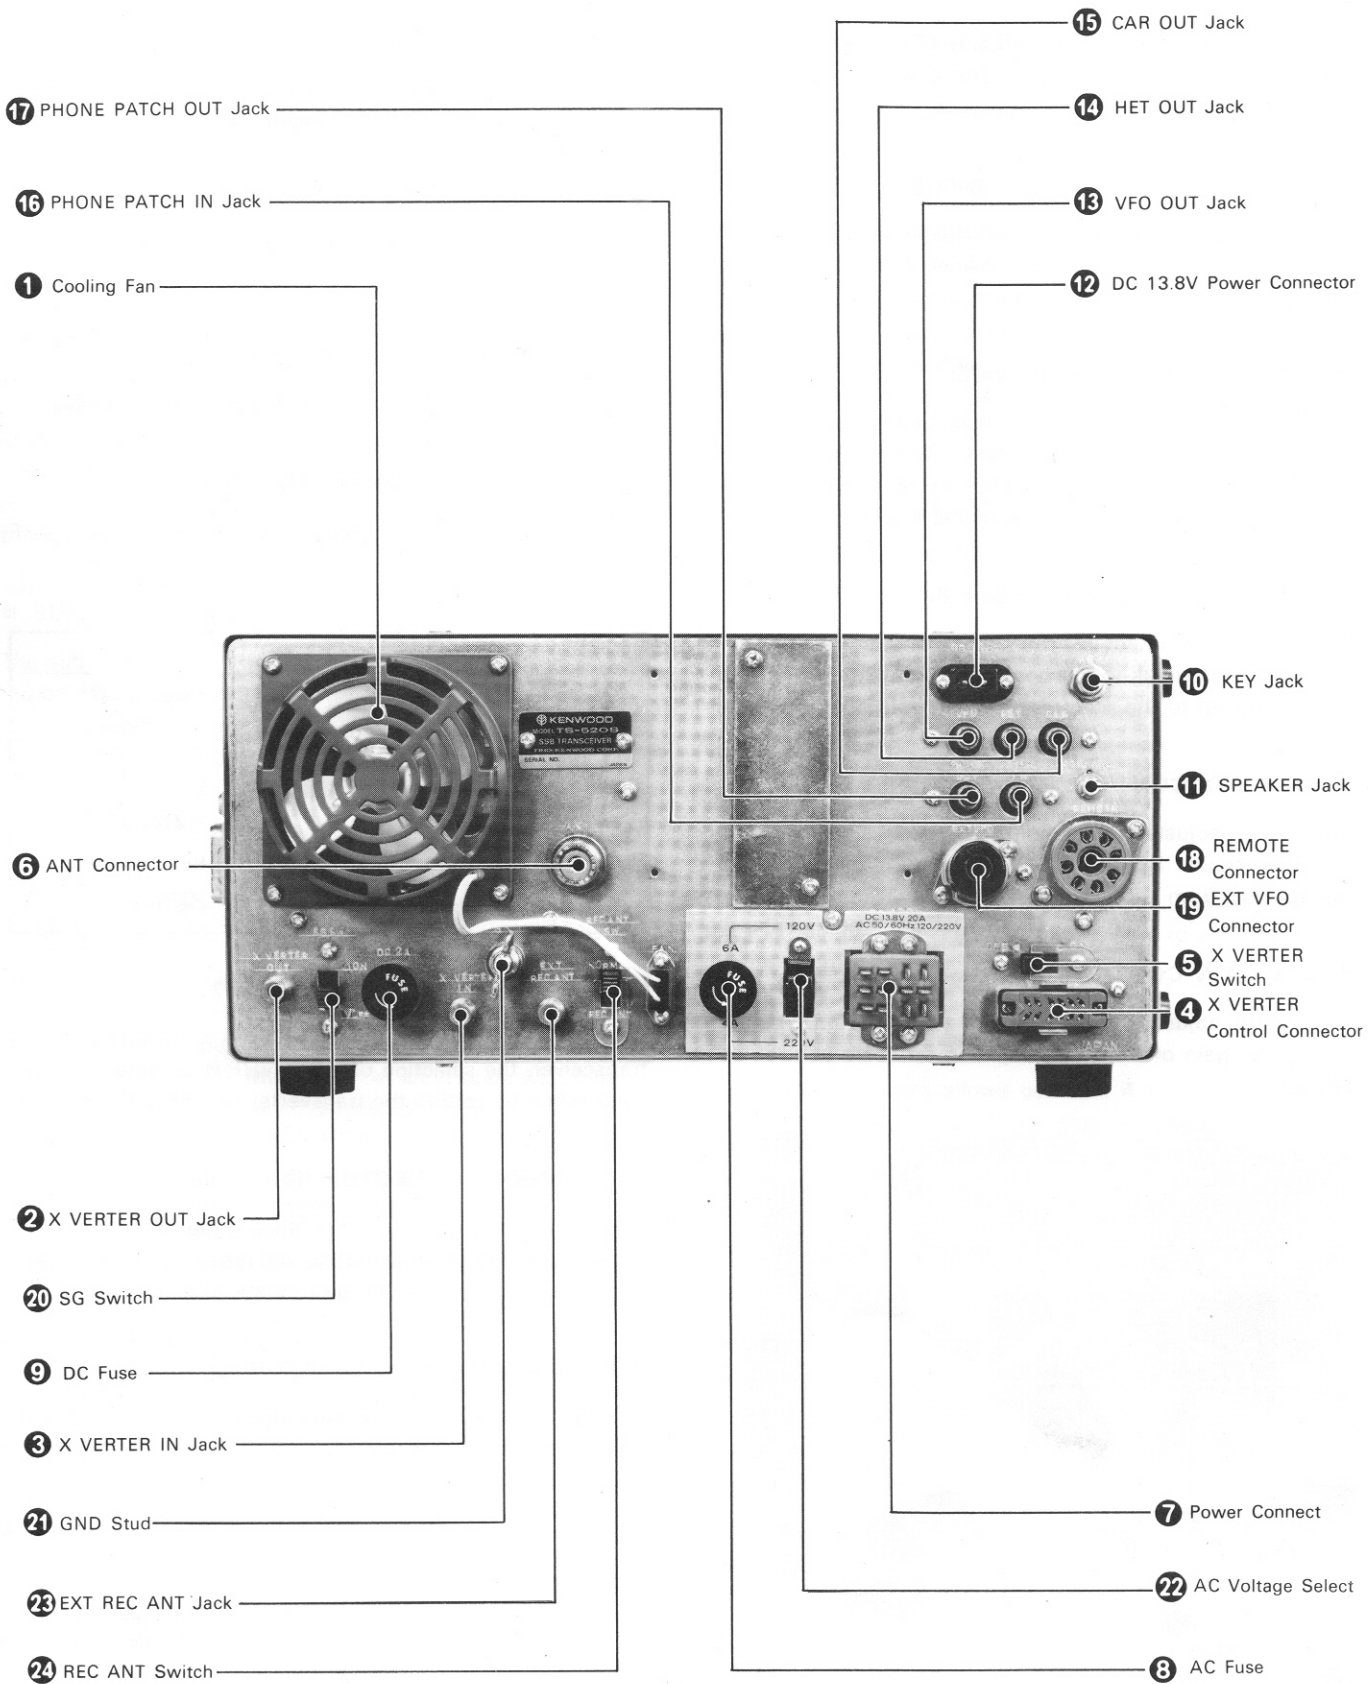

Fig. 7 Rear Panel Controls
### 3.3 REAR PANEL CONTROLS (See Figure 7)
#### ■ COOLING FAN (1 on Figure 7)
#### ■ TRANSVERTER OUT JACK (2 on Figure 7)
#### ■ TRANSVERTER IN JACK (3 on Figure 7)
#### ■ TRANSVERTER CONNECTOR (4 on Figure 7)
#### ■ XVERTER SWITCH (5 on Figure 7)
#### ■ ANTENNA CONNECTOR (6 on Figure 7)
#### ■ POWER SUPPLY CONNECTOR (7 on Figure 7)
■ **AC FUSE** (⑧ on Figure 7)
■ **DC FUSE** (⑨ on Figure 7)
■ **KEY JACK** (⑩ on Figure 7)
■ **SPEAKER JACK** (⑪ on Figure 7)
■ **13.8V DC CONNECTOR** (⑫ on Figure 7)
■ **VFO OUT JACK** (⑬ on Figure 7)
**HET OUT JACK** (⑭ on Figure 7)
**CAR OUT JACK** (⑮ on Figure 7)
■ **PHONE PATCH IN JACK** (⑯ on Figure 7)
■ **PHONE PATCH OUT JACK** (⑰ on Figure 7)
■ **REMOTE CONNECTOR** (⑱ on Figure 7)
■ **EXTERNAL VFO CONNECTOR (19)** on Figure 7)
■ **SG SWITCH (20)** on Figure 7)
■ **GND (Ground) LUG (21)** on Figure 7)
■ **AC VOLTAGE SELECT SWITCH (22)** on Figure 7)
■ **EXTERNAL RECEIVER ANTENNA JACK (23)** on Figure 7)
■ **RECEIVER ANTENNA SWITCH (24)** on Figure 7)